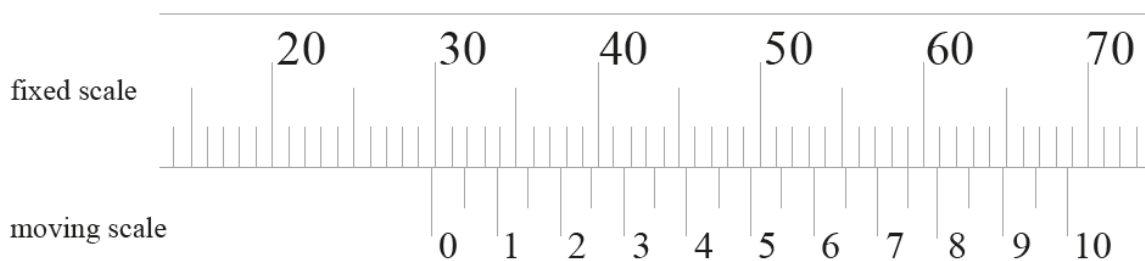

Fig. 1
- (b) Fig. 1 shows an enlarged view of a Vernier caliper scale measuring the diameter of a ball bearing. The scale reads in mm.